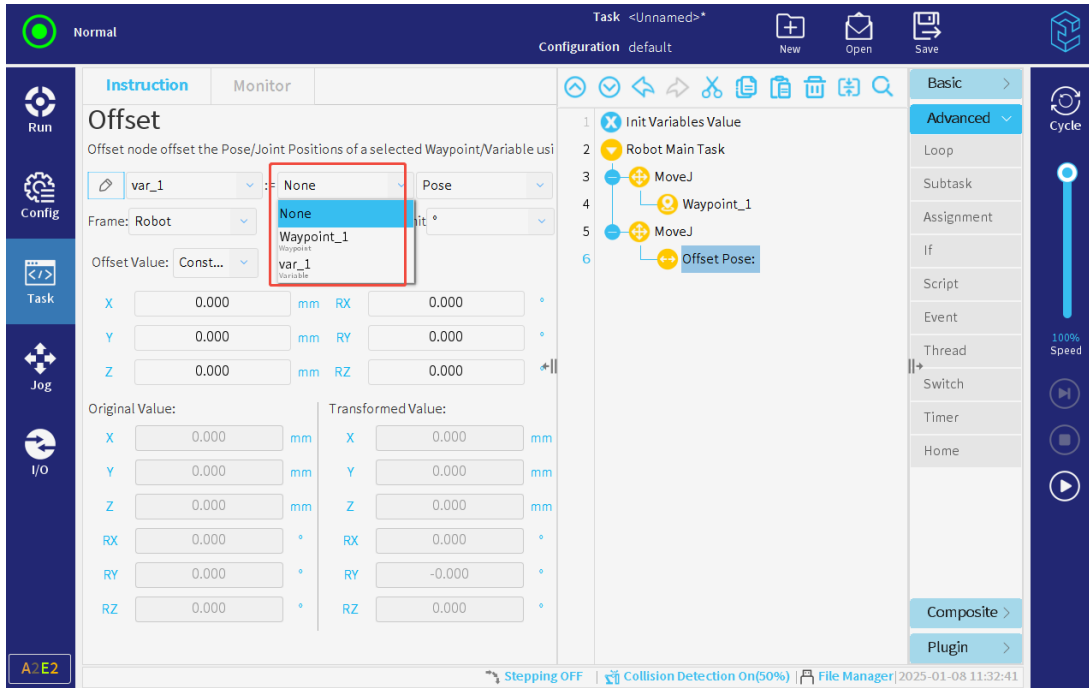

Figure 3-110 : Select Data Source
- Tap the second drop-down box to select a waypoint at a fixed location, or a task variable or a configuration one as the source of pose or joint offset, as shown in **Figure 3-110** .